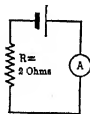

FIG. 111. Ammeter *A* indicates the current delivered by the battery cell.
**Prob. 18-6.** The cell in Fig. 111 has an e.m.f. of 1.35 volts. The ammeter reads 0.25 ampere. What is the internal resistance of the cell?
**Prob. 19-6.** What would a voltmeter read if put across the cell connected as in Fig. 111?